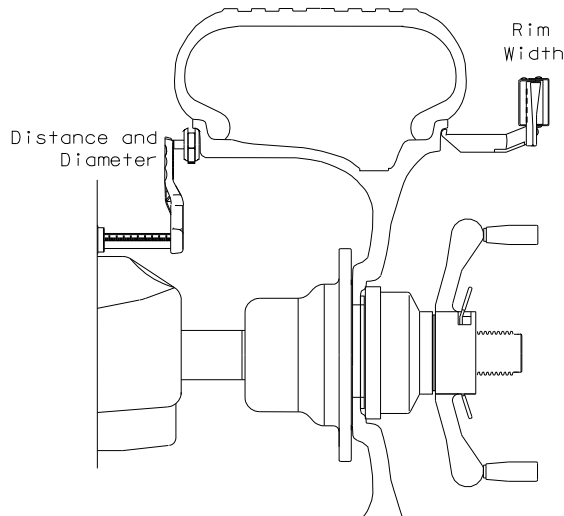

Figure 24
6.3.1 Rim Distance (offset) Rim Diameter and Rim Width - Move the **Rim Offset Arm** to the inside edge of the rim, touch the pointer to the rim edge, touch the tip of the **Width Arm** to the outside rim edge where weights will be placed as illustrated in Figure 24. Hold arms steady for about a second. The beeper will sound when the parameter values are calculated and entered automatically. Return the arms to its home rest position on the balancer. Do not allow the measurement arms to "dangle".